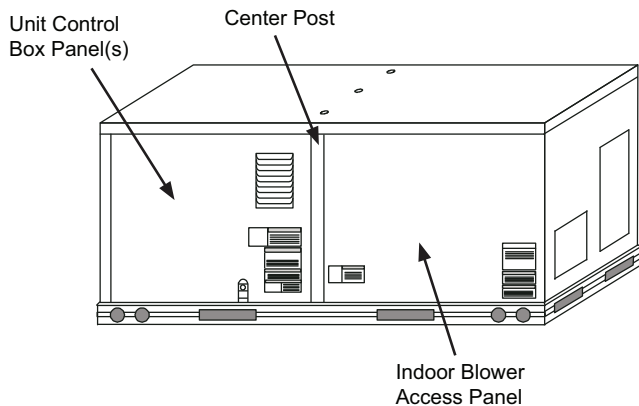
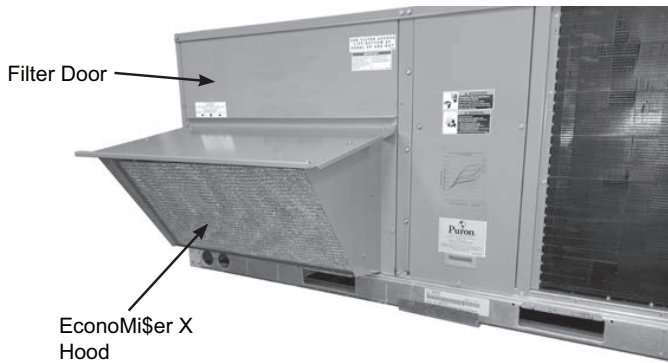

Fig. 7 — Typical Indoor Fan Motor Access Panel Locations
Fig. 22 — Install EconoMi\$er X Hood and Unit Filter Access Door
9. Remove the indoor blower access panel and the panel(s) covering the unit control box. (See Fig. 7.)
25. Install EconoMi\$er X hood over economizer. Screw hood in place through pre-punched holes. Reinstall the unit's filter access door. (See Fig. 22.) Re-install the Indoor blower access panel. (See Fig. 7.)
After powering unit controller, program the W7220 controller per the instructions to follow. See “Programming the W7220 Controller” on page 19. for summarized controller set-up instructions. After all settings have been made, re-install the unit control box panel. (See Fig. 7.)